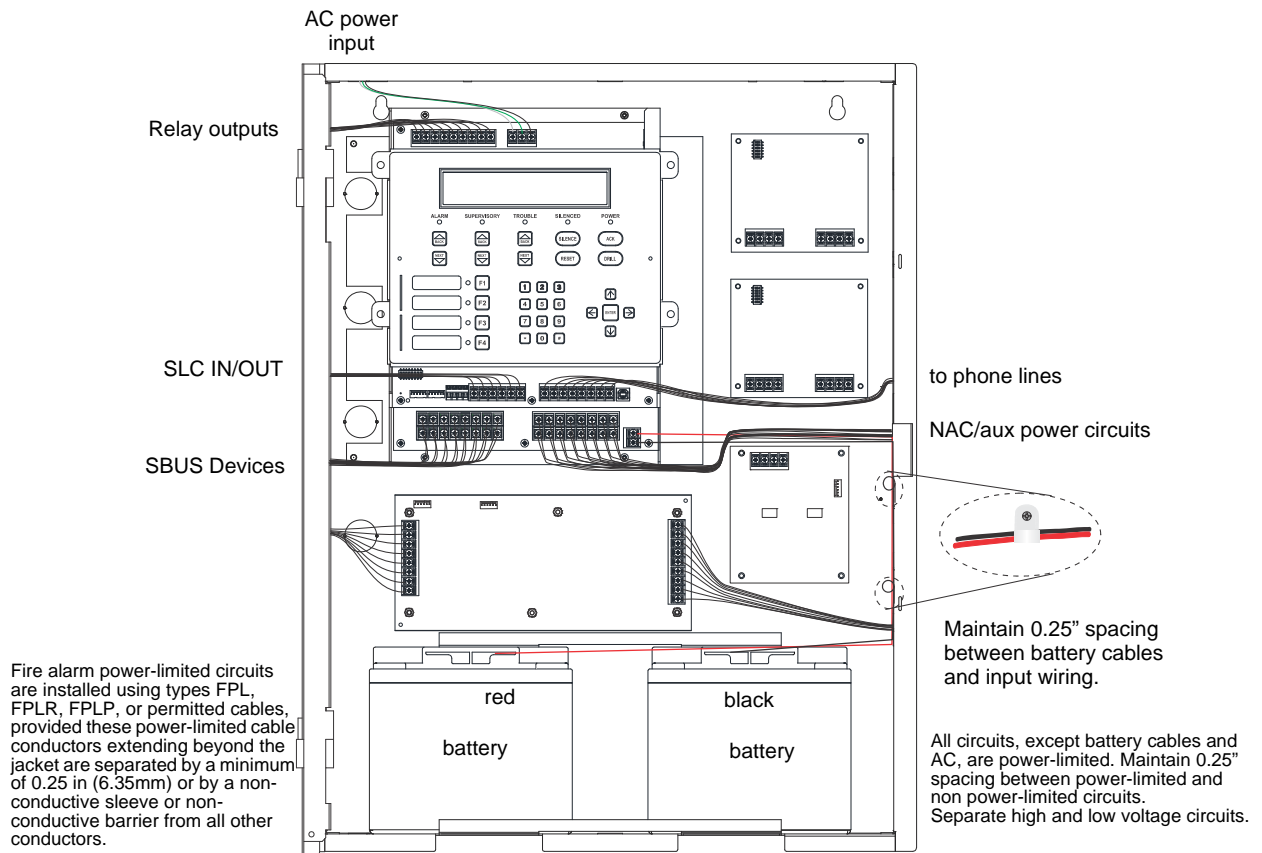

Figure 4.4 Wire Routing Example for IFP-2100ECS
- Route the wiring around the inside perimeter of the cabinet. It should not cross the circuit board where it could induce noise into the sensitive microelectronics or pick up unwanted RF noise from the high speed circuits. See Figure 4.4 for an example.
**NOTE:** Figure 4.4 is an example of how the wire connections can be routed. However, any other cabinet knock-outs (on either the main control panel or the RBB/AB-55 cabinet), that are not previously being used may be utilized to connect conduit between the two cabinets.